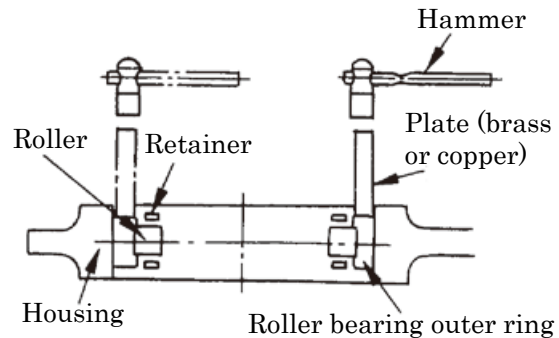

Fig.13 Removal of roller bearing outer ring
- (1) The pliers is used for removing the C-type snap ring and the puller for removing the slinger and bearing.
- (2) For the roller bearing, apply a brass or copper plate to the outer ring and alternately hit it at diagonal positions on the circumference with a hammer to remove it from the shield. (Fig.13)